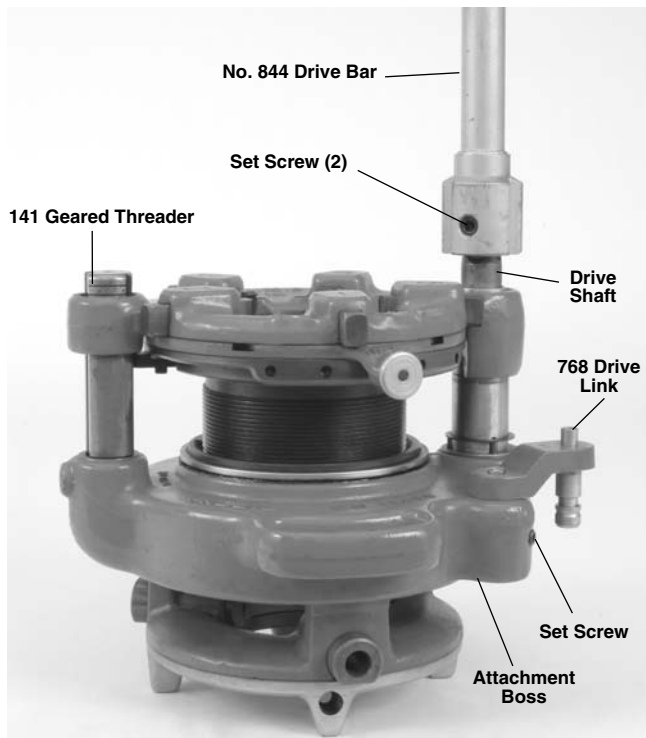

Figure 15 – 844 Drive Bar and 768 Drive Link Installed
8. With the drive shaft of the geared threader up, attach the 844 Drive Bar and securely tighten the two set-screws to retain in place (*See Figure 15*). For 535A machine, do not attach drive bar at this time.
1. Loosen setscrew in geared threader attachment boss. Install the 768 Drive Link into boss and tighten setscrew to retain (Figure 15). Do not over tighten – the drive link should rotate freely.